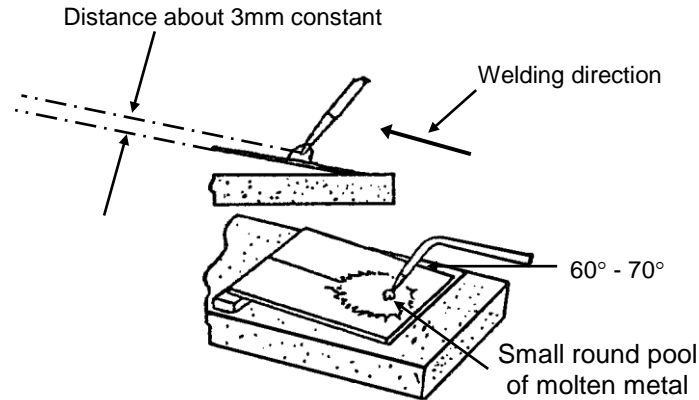

FIG 8.
- With your goggles in position, lower the blowpipe until the end of the inner cone is about 3mm above the surface of the workpiece and as near to the right-hand edge as possible. (Fig 8)